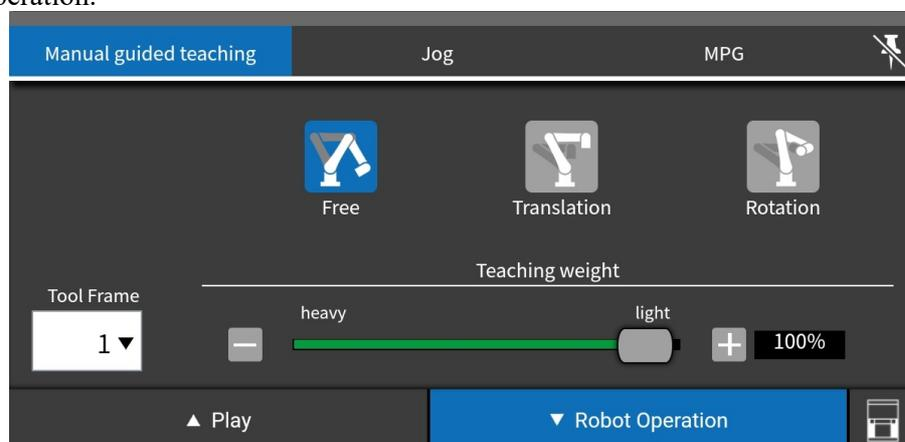

Fig. 3.3.3.1(a) Tablet TP Manual Guided Teach
- On the tablet TP, open the Robot Operation tab on the bottom of the screen and press the “manual guided teaching” button. The panel in Fig. 3.3.3.1(a) is displayed where you can adjust the weight of the operation.